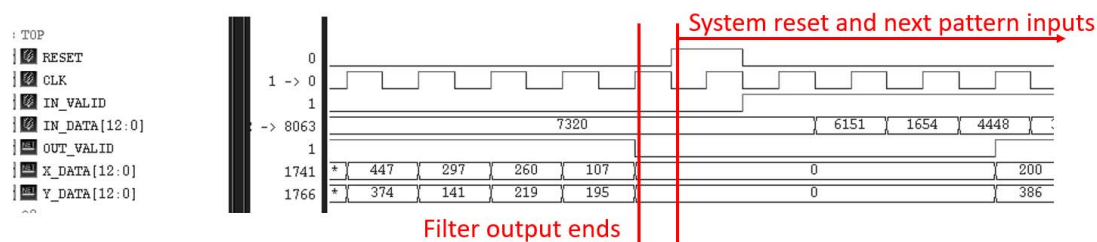

Figure 5: System resets and next pattern inputs
8. After the OUT_VALID signal is pulled low, the system will reset and continue to input the next filter input test data, as shown in Figure 5.